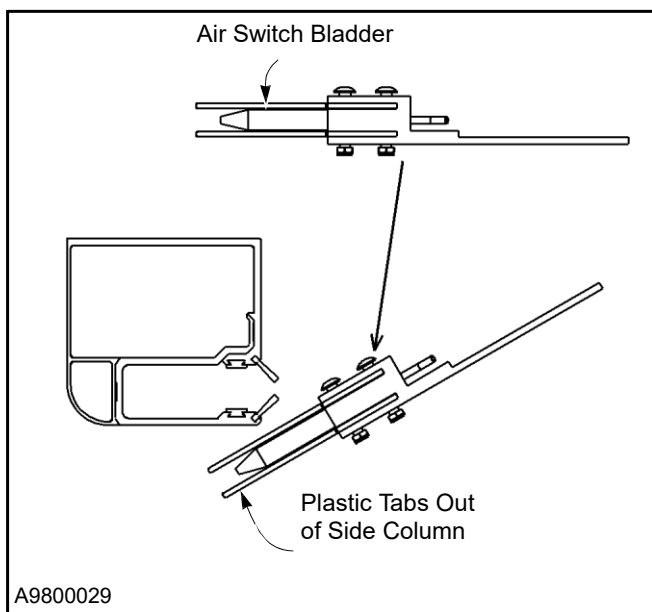

Figure 37
2. Push the breakaway bottom bar out of the side column. Door should not operate until control box is reset. (See Figure 37)